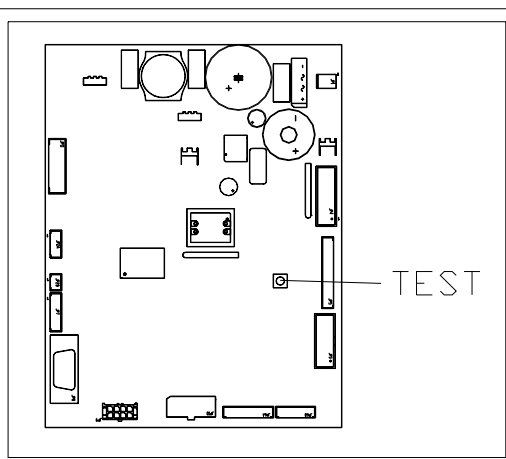

FIG. 7
- b) Press the TEST push-button (fig.7) on the main control board which finds in the coin mechanism compartment. The following message will be displayed "**Select the drum to be loaded**".
- d) Once the new product has been loaded, press the **OK** push-button (Shopper push-button) to set the product presence into the compartment and the expiry date after which the product sale will be inhibited. If no product has been loaded, press the corresponding selection key to move to the next compartment. This procedure will be carried out until all the compartments are set or a new drum is selected for loading. The vending machine will automatically switch from the loading to the normal mode when all the drums have been checked. To interrupt at any time the loading procedure, press the TEST push-button (fig.7).
- e) When a **Fifo** selection is loaded, all the compartments **must** be loaded one after the other (no empty compartments are possible). If there are not enough products to fill a Fifo selection: press the **OK** push-button after loading the last product and then quit the loading procedure (TEST push-button (fig.7) or select the next drum to be loaded.
- 2) Press the button TEST (fig.7) of the main control board of the coin mechanism compartment; the message "**Select drum to reload**" will appear on the display.
- 5) Press the button TEST (fig.7) to exit FREE VEND.